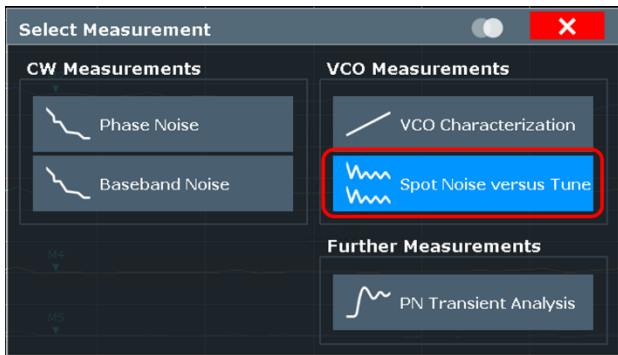

Figure 34: Start spot noise vs tune measurement
- Press the *MEAS* Hardkey and select *Spot Noise Versus Tune* (Figure 34)